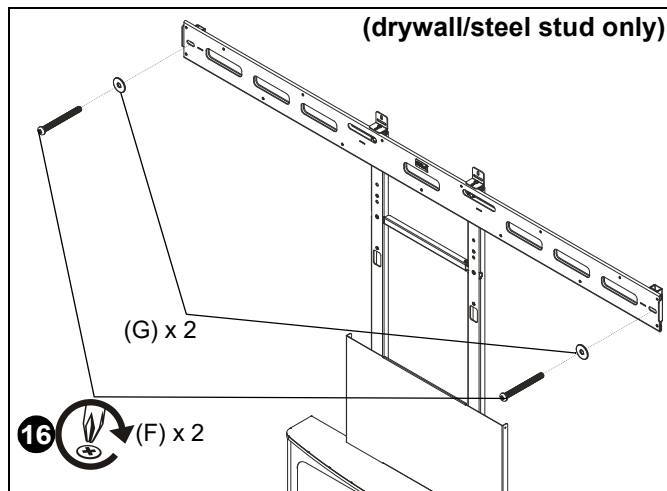

Figure 8
16. (Drywall/steel stud only) Use two 1/4-20 x 2 1/2" Phillips pan head machine screws (F) and two 1/4" washers (G) to secure cross bracket (A) and assembled wall brackets (C) to wall. (See Figure 8)